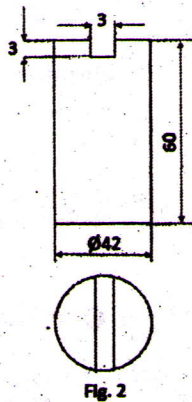

Fig. 2
15. (a) Design a gang milling fixture to cut 3×3 mm. slot in a mild steel component for 5 work pieces given in figure 2.